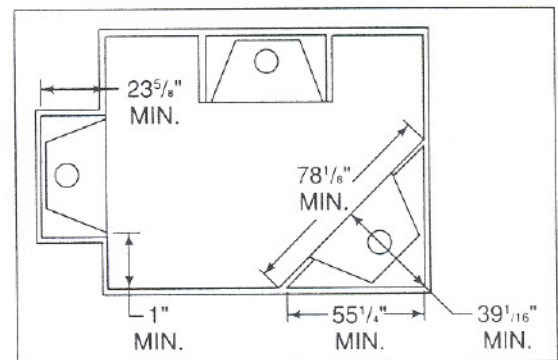

Figure 2
The G420(L) or GC420(L) gas appliances can be installed in a wide variety of ways and will fit nearly any room layout. It may be installed in a recessed position, framed out into the room, or across a corner. The unit may be installed at a height level with the floor, or it can be raised up from the floor to enhance its visual impact. Figure 2 illustrates a variety of ways the appliance may be located in a room.
Proper clearances to combustible sidewalls, as illustrated in Figure 2, must be maintained.